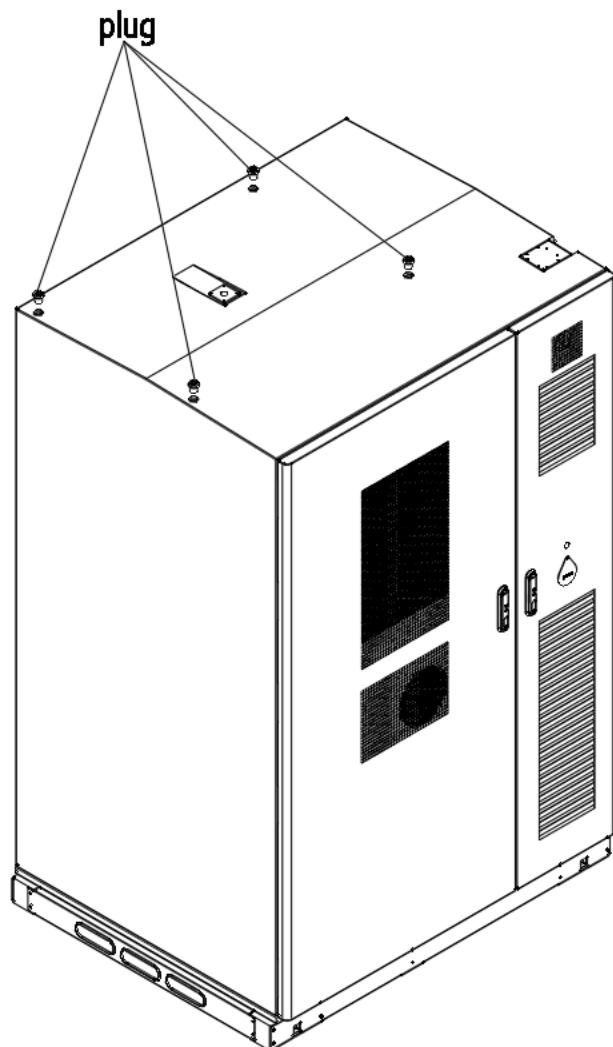

Figure 4-4 Schematic of the Energy Storage Cabinet Plug Removal
③ Use a hexagon socket wrench to unscrew the 4 plugs at the lifting ring installation position on the top of the energy storage cabinet, as shown in Figure 4-4: the same operation applies to the combiner box;